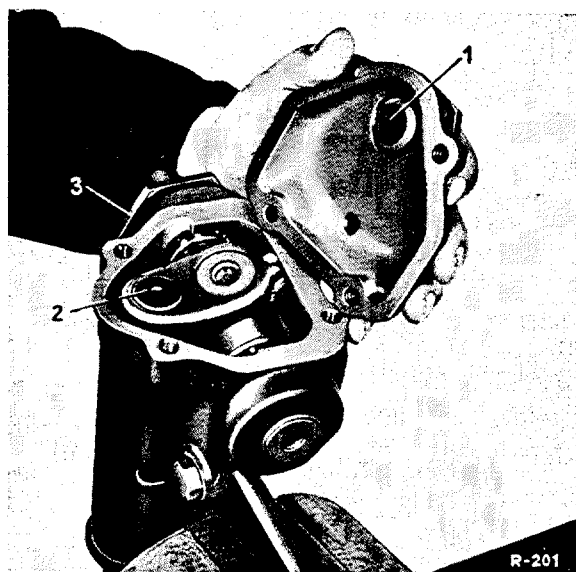

Fig. L 4/1
4. Remove the four housing cover fixing screws and remove the cover and gasket. Take out the pressure sleeve (1) together with the compression spring (Fig. L 4/1).
7. Use Wrench 180 589 00 01 to unscrew the hexagon nut (3) which fixes the adjusting ring and use Pin Wrench 000 589 00 05 to screw out the adjusting ring (Fig. L 4/2).